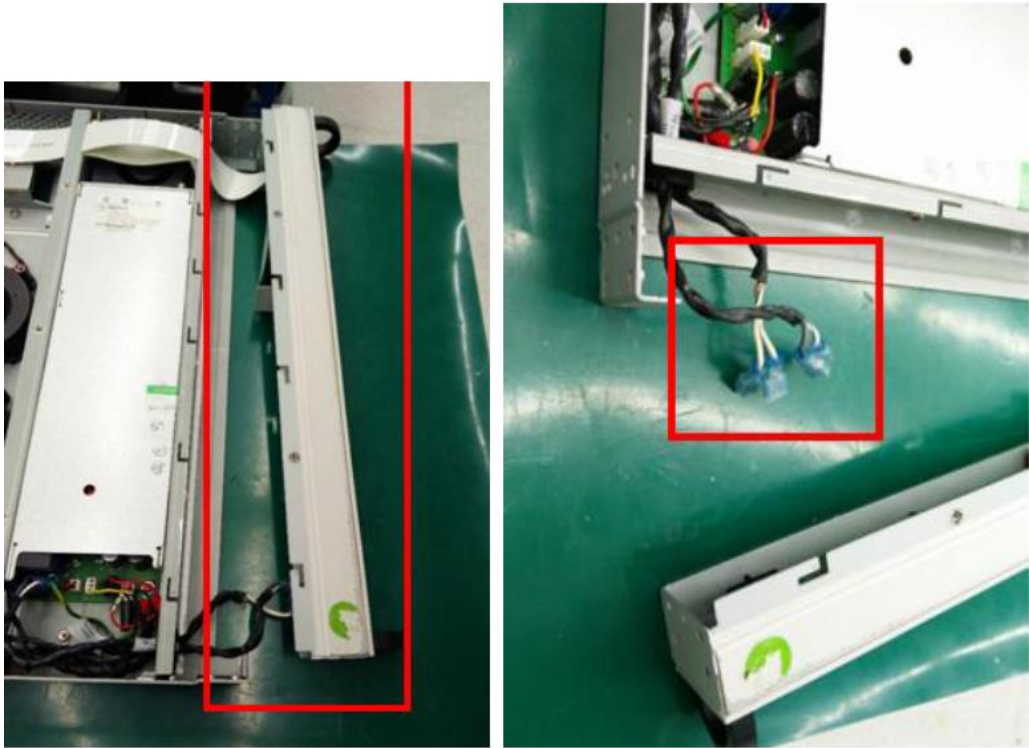

Figure 4
4. Remove the front panel from the chassis and dismantle the AC line cable and cable ASSY from the front panel as shown in **Figure 4**.